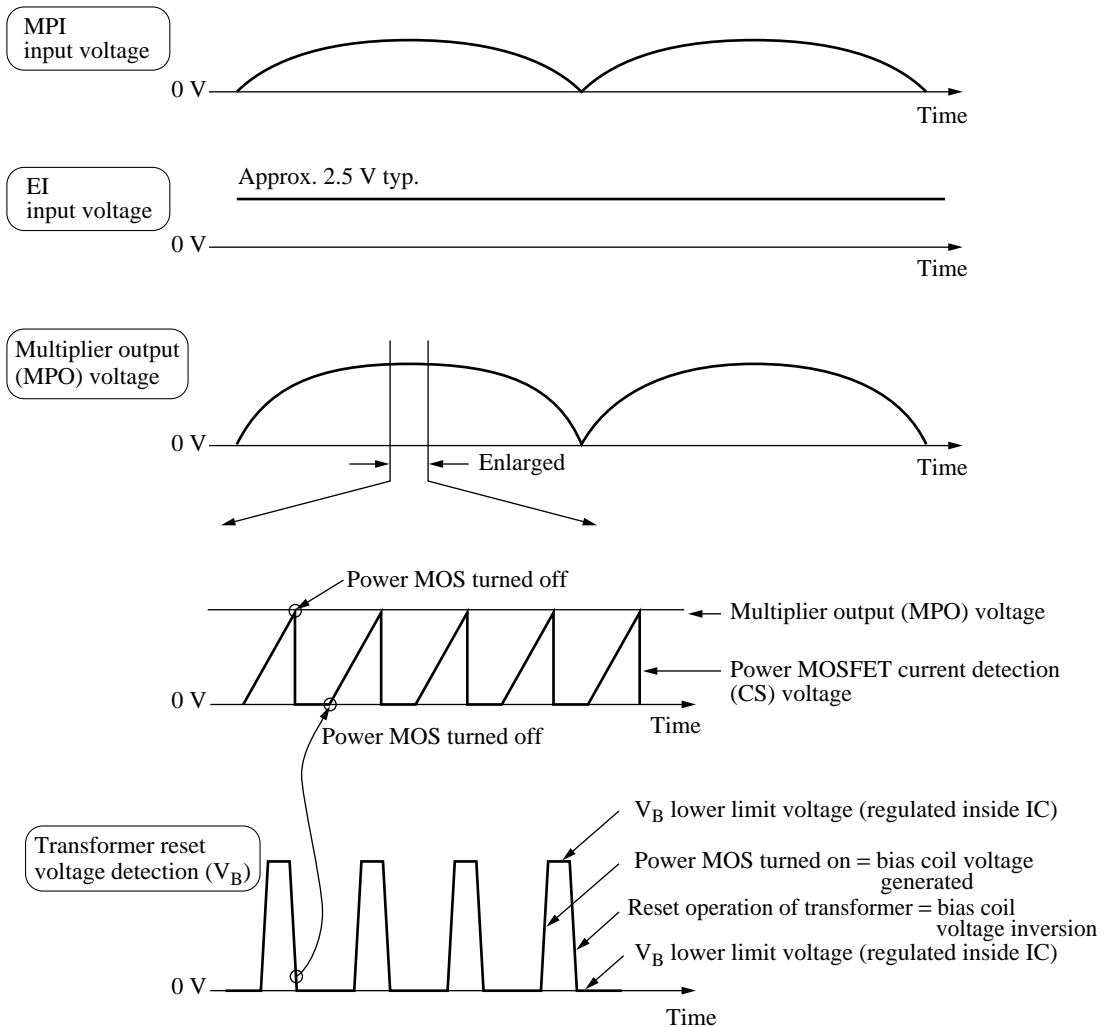

Figure 2. Explanation of normal control operation
2) Control outline description (Refer to figure 2 and figure 3.)
2) Control outline description (Refer to figure 2 and figure 3.) (continued)
(8) Switching device turn-on